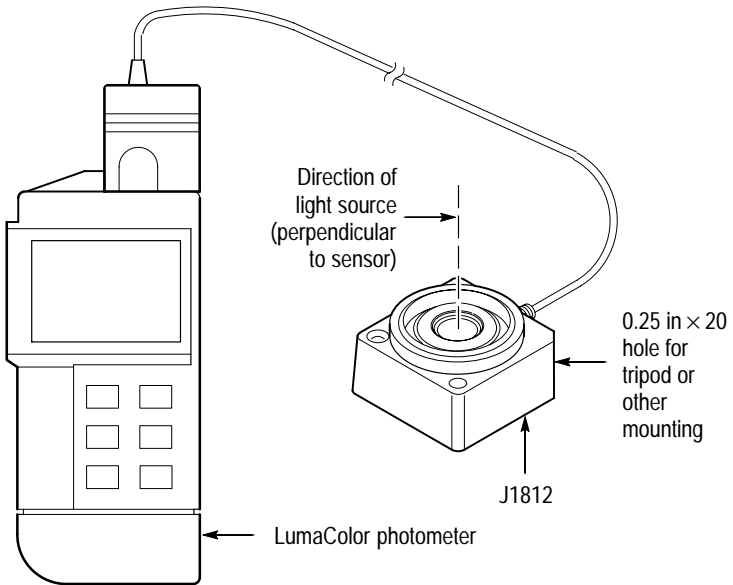

Figure 1–22: J1812 setup for irradiance measurements
3. Position the J1812 perpendicular to the light source. Refer to Figure 1–22.